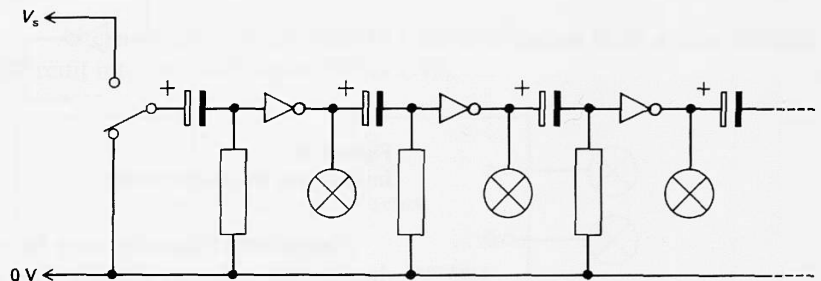

Figure C43
- C14a** What happens in the circuit of figure C43 when the input is switched from 0 V to  $V_s$ ? Can you explain why this happens? What will happen if the output from the last stage is sent back to the input of the first?